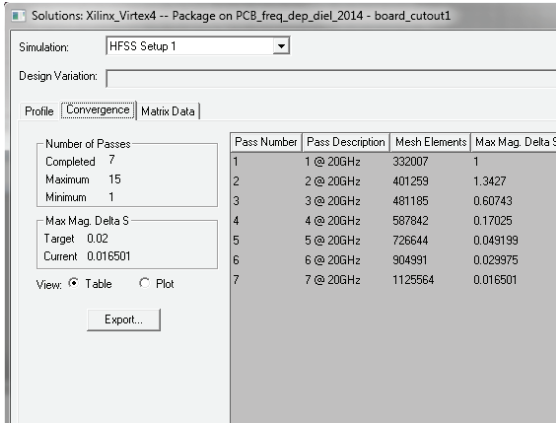
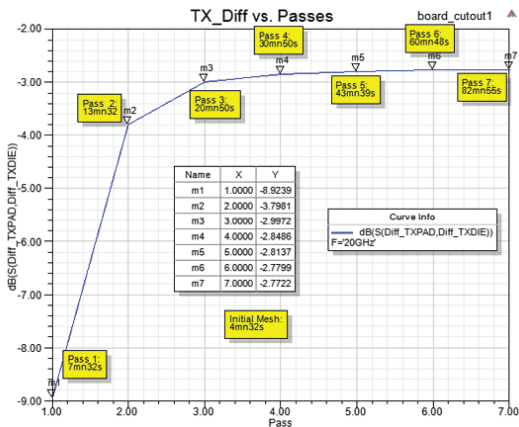
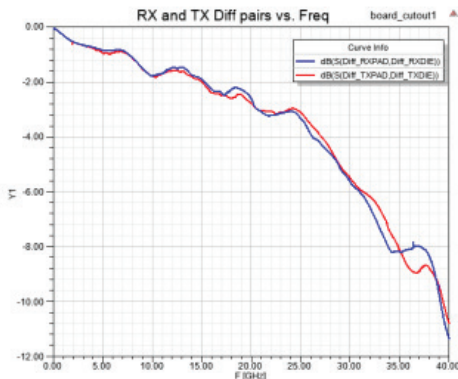
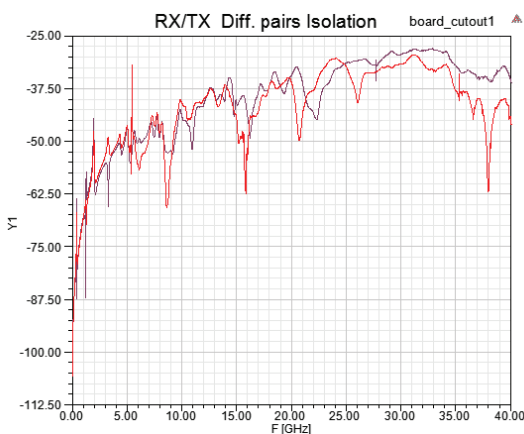

Figure 7. Convergence table
Figure 8. Insertion losses of TX differential pair vs. passes
Figure 9. Insertion loss of two differential pairs vs. frequency
Figure 11. Insertion losses of TX differential pair vs. passes
The automatic adaptive mesh process is based on iterative mesh refinement, which identifies the region where the mesh needs to be refined to reduce the error between two solutions. Figure 7 shows the convergence table that illustrates progression of the adaptive mesh process. Convergence is achieved after seven passes, reaching an error close to 0.01 with a number of mesh elements slightly over 1 million. Figure 8 shows the insertion loss of a TX differential pair connecting package and board, at 20 GHz (adaptive frequency) versus adaptive passes. The adaptive process was performed using 16 cores. Using the Phi mesher, the initial mesh was created in less than five minutes; in the past, it took significantly longer with the standard classic mesher. The third pass is achieved after 21minutes with a value of +/-10 percent to the final solution, which means that in 20 minutes you can complete a sanity check on this complex design. The fifth pass is achieved after 44minutes with a value less than +/-2 percent to the final solution. Value variation between passes five, six and seven shows that convergence is achieved, ensuring the optimum mesh for selected accuracy in 1 hour 20 minutes.
A frequency sweep from 0 GHz to 40 GHz was run to extract the s-parameter model in the requested bandwidth. Post-processing allows automatic identification of differential pairs from single-ended terminal. Results can be plotted as single-ended terminal or differential pairs. Various results are shown (Figure 8 insertion loss in dB; Figure 9 return loss in dB of the two differential pairs, receiver (RX) and transmitter (TX); Figure 11 isolation between RX and TX differential pairs). Depending on the specification, the designer will identify the frequency range of usage for the package on board device.